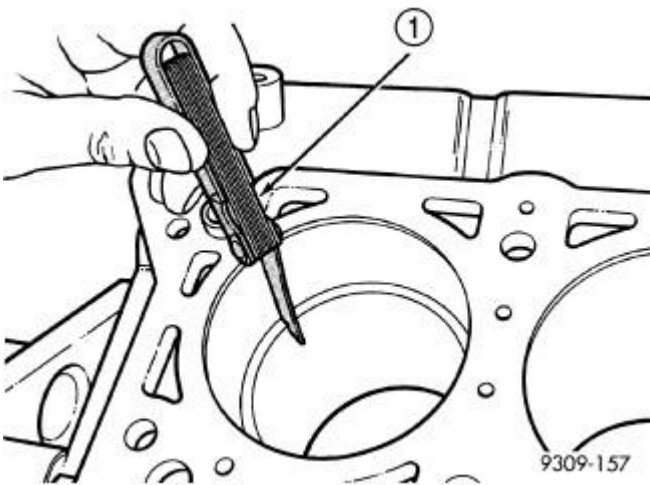

Fig. 352: Checking Gap On Piston Rings
1. Wipe cylinder bore clean. Insert ring and push down with piston to ensure it is square in bore. The ring gap measurement must be made with the ring positioning at least 12 mm (0.50 in.) from bottom of cylinder bore. Check gap with feeler gauge. Refer to **Fig. 352**. For clearance specifications, refer to **Engine - Specifications**.